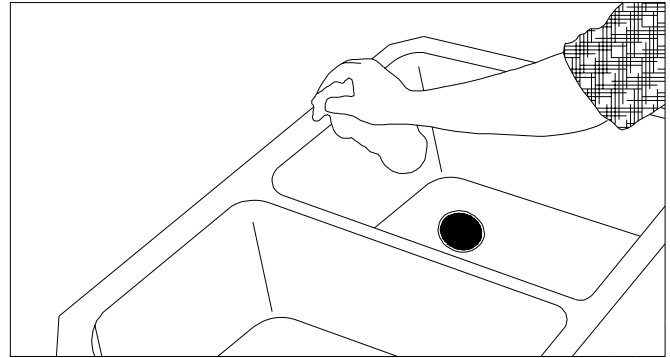

Figure 7A
- Make sure the surface is smooth, clean, and free of defects. (FIG. 7A)